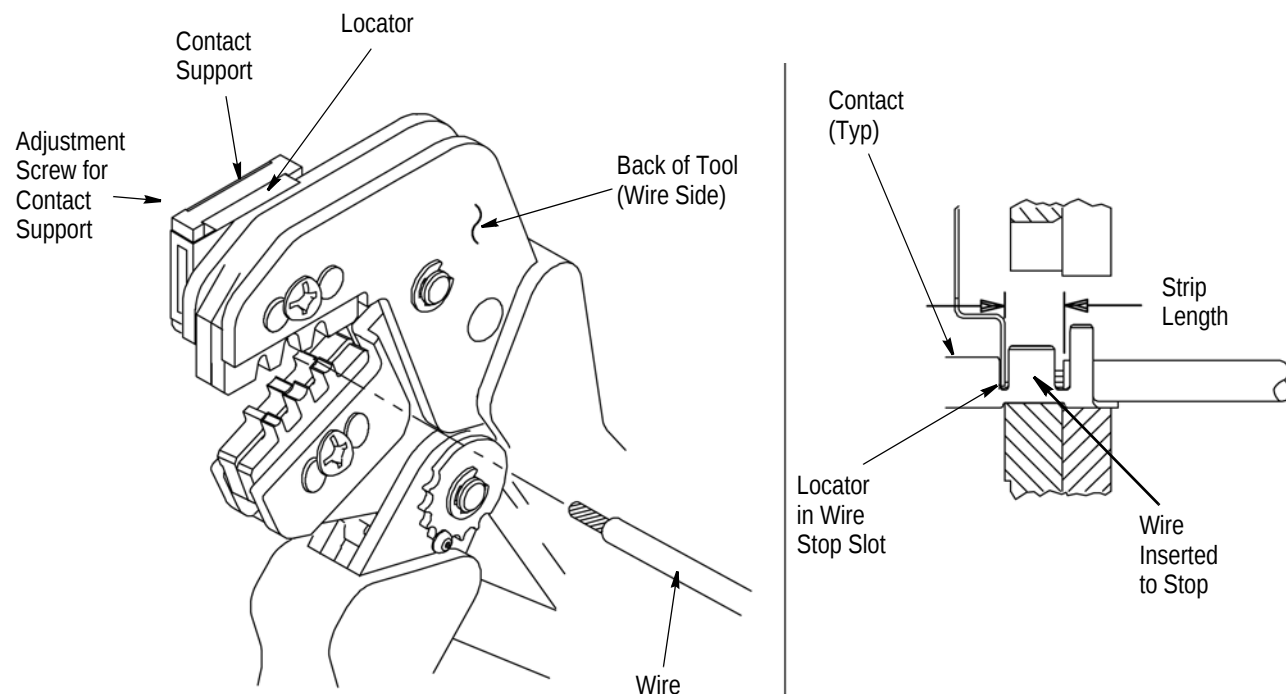

Figure 3
### 4. CONTACT SUPPORT ADJUSTMENT (Figure 3)
the length indicated in Figure 1, taking care not to nick or cut wire strands. Select an applicable contact and identify the appropriate crimp section according to the wire size markings on the tool. Refer to Figure 3 and proceed as follows:
3. Position the contact so that the mating end of the contact is on the locator side of the tool, and so that the open "U" of the wire and insulation barrels must face the top of the tool. Place the contact up into the nest so that the movable locator drops into the slot in the contact. Refer to Figure 3. Butt the front end of the wire barrel against the movable locator.
5. Insert stripped wire into contact insulation and wire barrels until it is butted against the wire stop, as shown in Figure 3.
**NOTE** *The crimped contact may stick in the crimping area, but the contact can be easily removed by pushing downward on the top of the locator (see Figure 3).*